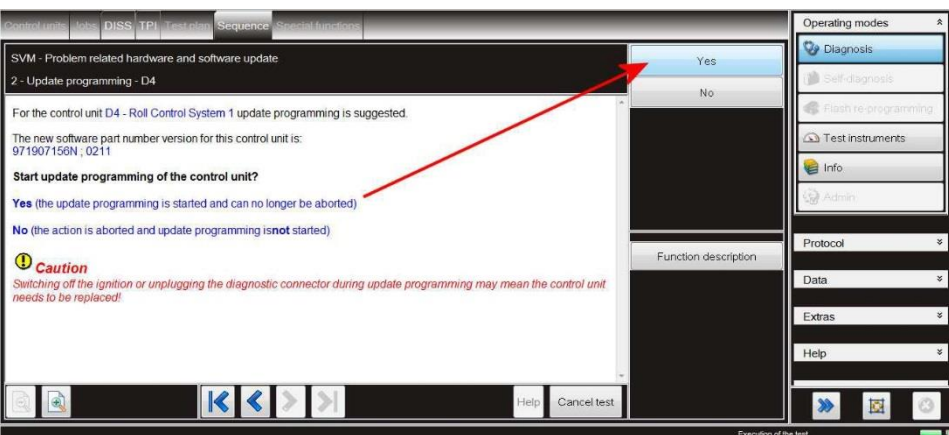

Figure 7
11. Once the update to D5 Roll Control System 2 is complete, follow all remaining screen prompts to update D4 – Roll Control System 1 (Figure 7)